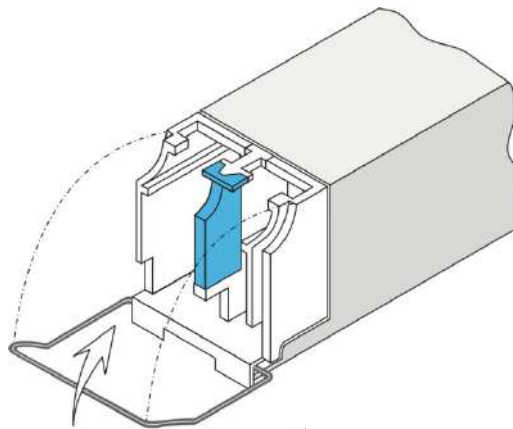

Figure 2-1. Locking the SFP Wire Latch
- Lock the wire latch of each SFP module by lifting it up until it clicks into place, as illustrated in Figure 2-1.